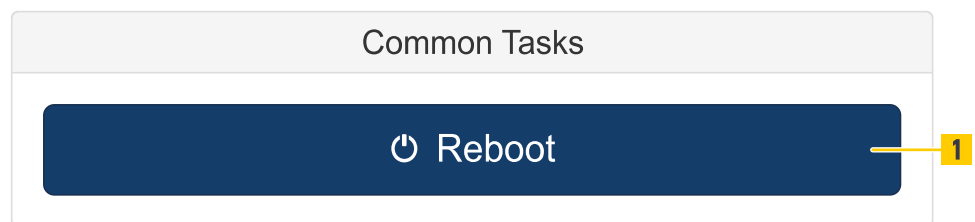

Fig. 141: Common Tasks
- Some configuration changes take effect only after a restart (reboot). To restart the device click Reboot (Fig. 141 /1). The connection to the user interface is closed. Reconnect to continue the configuration.